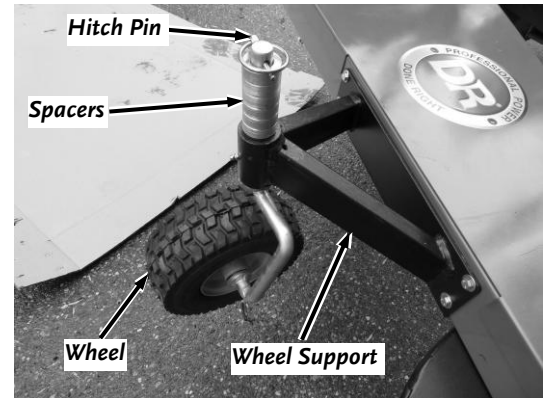

Figure 7
- Insert the Wheel Shaft into the Wheel Support from underneath, install the Spacers on top and secure with the Hitch Pin (**Figure 7**).